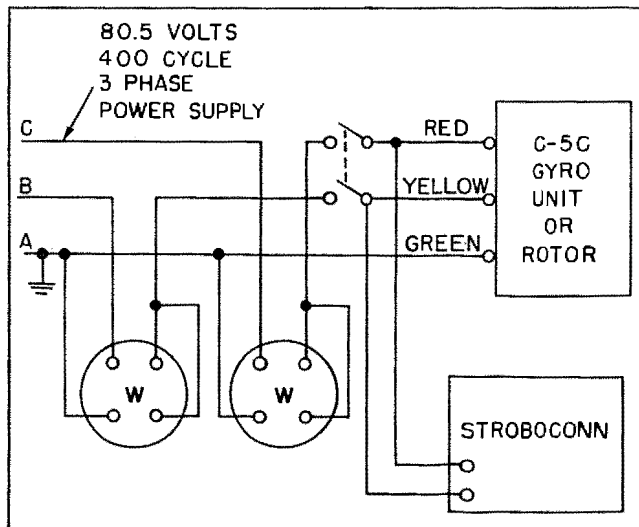

Figure 38S. Set-up for Testing the C-5C Gyro Unit or Gyro Rotor.
of the unit. This may be done by placing the gyro unit in the Gyro Running Test Fixture 1000408 and connecting up the unit as shown in figure 38S.
2. To test the gyro rotor place it in the Rotor Run-in Fixture 1000360 and connect up as shown in figure 38S. Apply 80.5 ± 2 -volt, 3-phase, 400-cycle power to the rotor. Once the rotor has reached a speed of 380 revolutions per second (for five minutes) the pressure may be reduced to a full vacuum. The speed should be 386.5 revolutions per second (minimum) as measured using a Strobocorr (C. G. Conn, Ltd., Elkhart, Indiana), or the equivalent, immediately after the power is turned off. The power consumption should be 3.7 watts, maximum, (sum of the wattmeter readings with the power applied to the rotor less the "no-load" wattmeter readings).